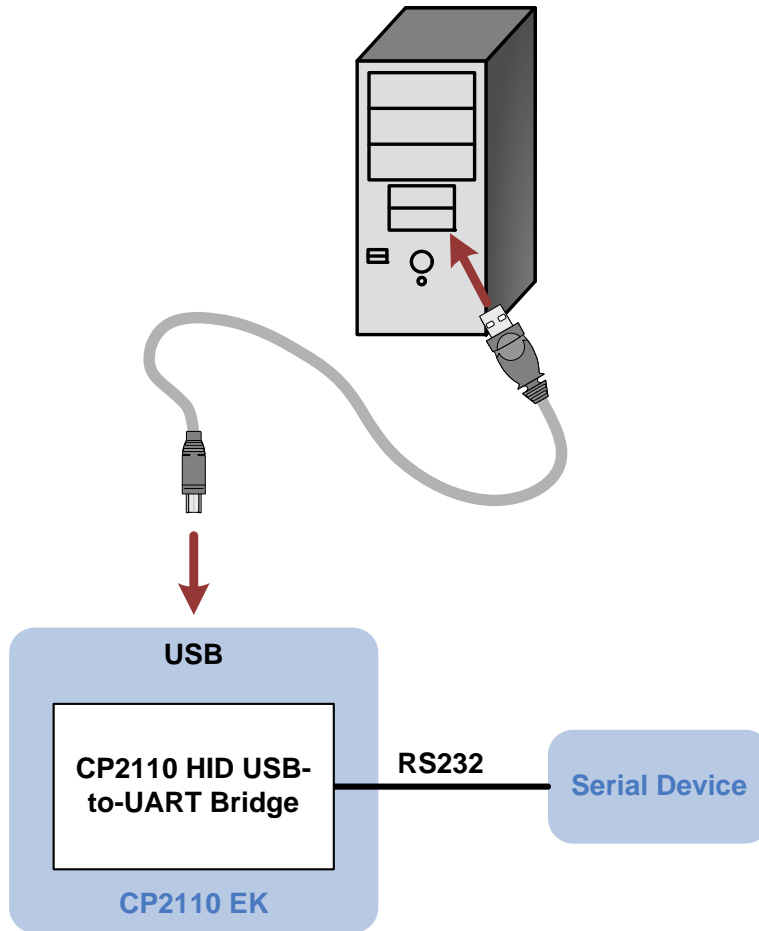

Figure 1. Hardware Setup
Connect the CP2110 evaluation board to a PC as shown in Figure 1.
- Updated Figure 1.